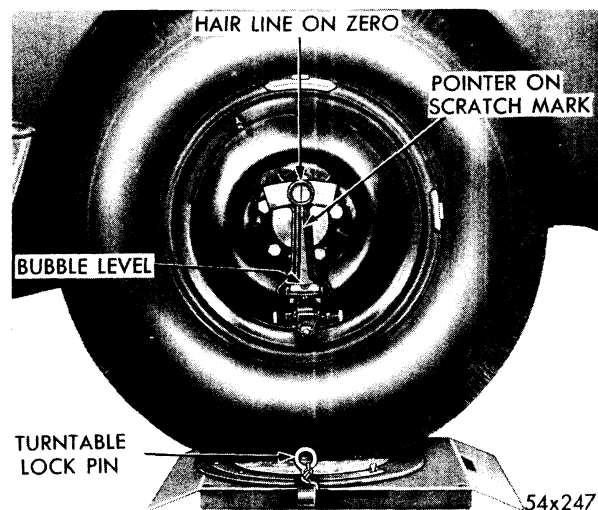
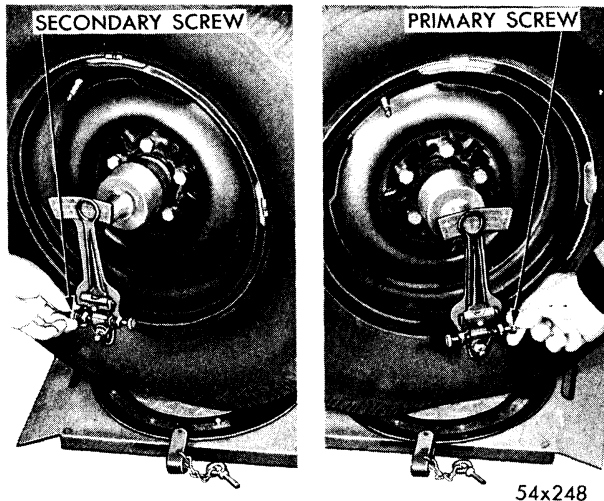

Fig. 73—Gauge C-3409 and Turntable DD-435 on Right Wheel
Fig. 74—Checking King Pin Inclination—Right Wheel
- (2) Place front wheels on locked turntables, as shown in Figure 73, with front wheels in straight-ahead position.
- (3) Remove Wheel Cover Assembly.
- (4) Assemble gauge to right front wheel hub as shown in Figure 73, with quadrant parallel with wheel and pull out turntable lock pins.
- (5) Grasp the front bumper at the center and move, or bounce, the front end of car up and down three or four times to allow the car to rest at "normal," unloaded position.
- (6) With gauge on the right wheel, turn front wheels to left until right wheel has turned more than 20 degrees, as indicated on turntable scale. Allow wheel to back off to exactly 20 degrees.
- (7) Adjust secondary screw which controls short pointer (Fig. 74), until bubble is centered between the two lines on the spirit level. Do not disturb gauge setting or release brakes.
- (8) With foot brakes still applied, turn front wheels to the right until right wheel has been turned to an angle of more than 20 degrees past straight-ahead position.
- (9) Adjust primary screw (Fig. 74) which controls hair line, until bubble centers in spirit level. The reading on the 40 degree scale on gauge will be the king pin angle for the right wheel.
- (10) To check king pin angle on left wheel, place wheels in straight-ahead position and attach gauge to left wheel as explained in Step (4). Turn wheels to right, repeating Steps (6), (7), (8) and (9), as outlined above.